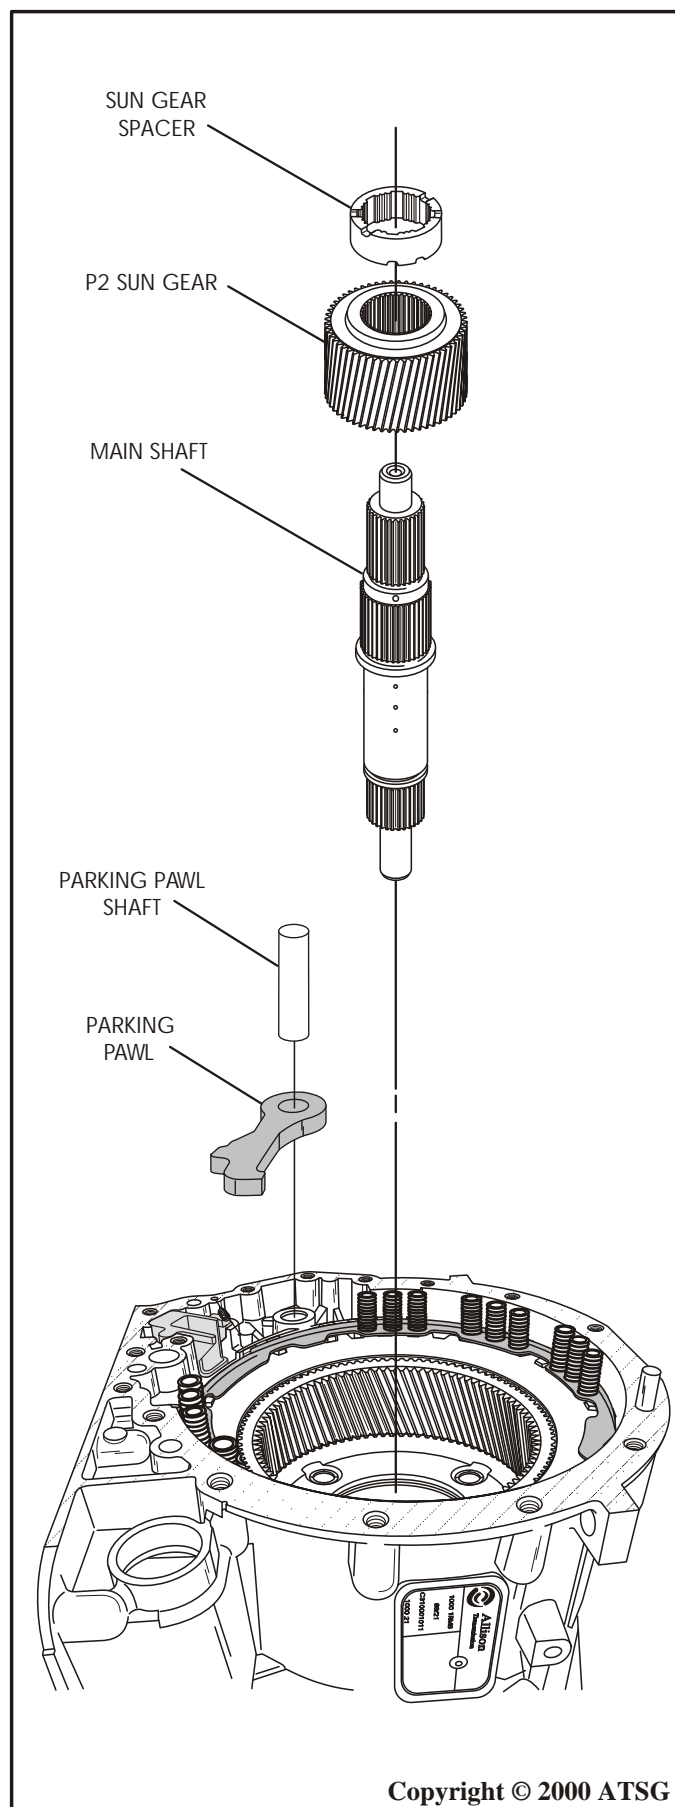

Figure 62
38. Grasp the main shaft splines and lift straight up removing the main shaft, P2 sun gear and the sun gear spacer, as shown in Figure 62.
39. Remove the parking pawl shaft by pulling up and twisting motion at the same time. This will help in the removal as it is air locked in the case bore (See Figure 62).